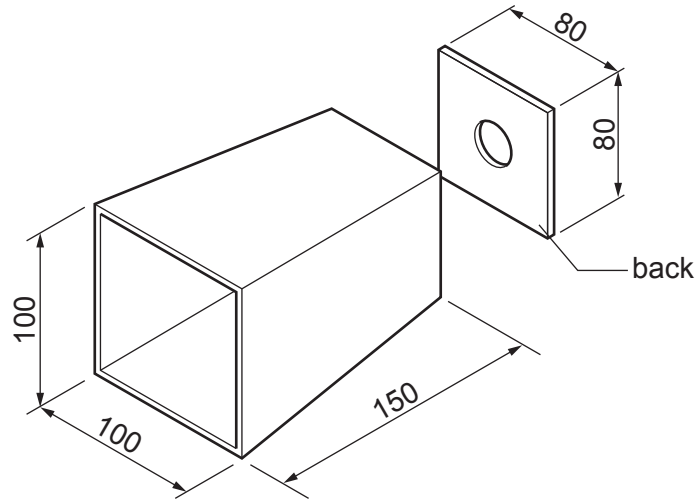

Fig. 13.4
- (f) Fig. 13.4 shows details of the lampshade made from 4 mm thick veneered plywood. The back of the lampshade has been removed.